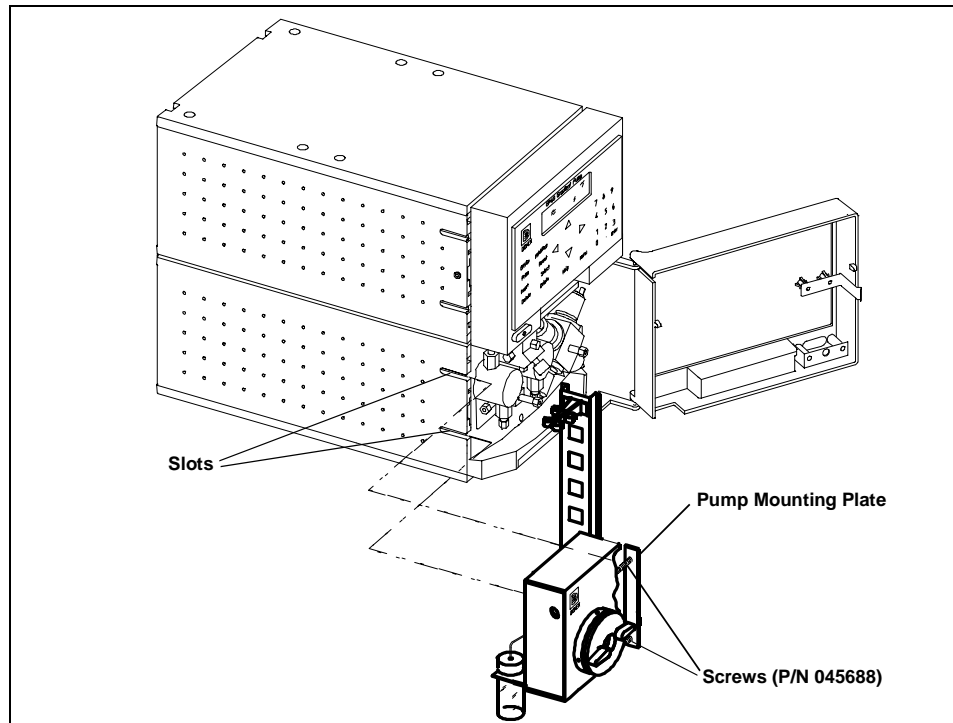

Figure 2-2. Attaching the LC5 to the Pump Module
1. Loosen completely (but do not remove) the two screws holding the pump mounting plate onto the LC5 column mounting brace and valve housing (see Figure 2-2).
2. Open the lower door of the GP40 or IP20 and locate the two slots on the left-hand side of the pump (see Figure 2-2).